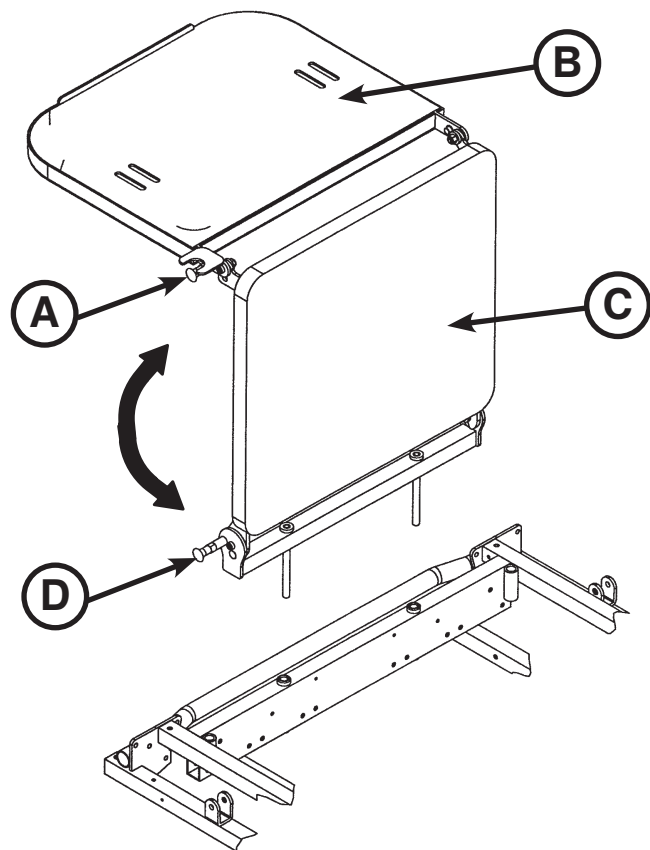

Figure 9.2: Foot Extension/Defibrillator Tray - Foot End
To use as a defibrillator tray, pull out the top knob (A) and pivot the tray (B) over the foot extension (C) until the tray extends flat over the foot end of the stretcher as shown in Figure 9.2.
To use as a foot extension, pull out knob (A) and pivot the defibrillator tray back until it locks against the foot extension (C). While holding onto the assembly, pull the bottom knob (D) and lower the foot extension down until it is flat as shown in Figure 9.2.